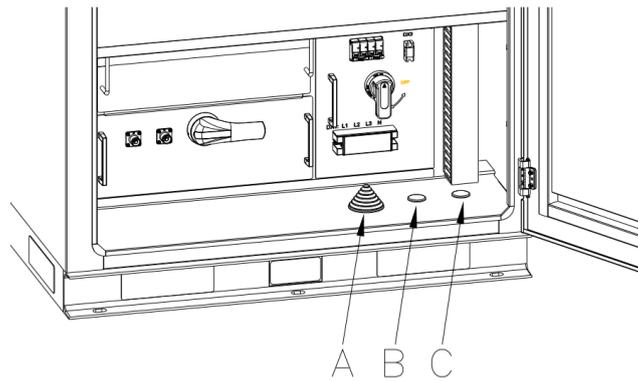

Figure 4-5 External Cable Entry Hole Location Diagram
- 1 The cable is introduced into the cabinet through the bottom cable entry hole of the BESS (such as port B in Figure 4-5), and enters the GLC;
the network cable is introduced into the cabinet from the bottom cable entry hole (as shown in Figure 4-5 B port), entering the switch wiring area.